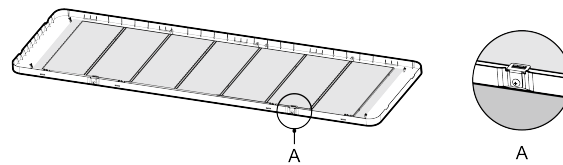

Fig.4.4.7
- (5) Tighten the two “L”-shape metal sheet in the accessories on the grille with screws, please refer to Fig.4.4.7
- (6) Install it to the air inlet grille and buckle it.
- (7) Install the air inlet grille and then lock the clasp.
- (8) Tighten the screw until the thickness of sealing material between panel and indoor unit is about 5~8mm.